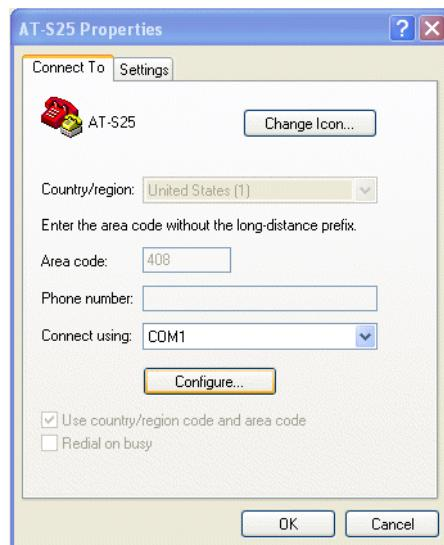

Figure 3 AT-S25 Properties Window
7. From the local management interface menu bar, select *Properties* from the File menu or click the Properties icon . The AT-S25 Properties window in Figure 3 is displayed.
2. From the local management interface menu bar, select *Properties* from the File menu or click the Properties icon  . The AT-S25 Properties window in Figure 3 on page 7 is displayed.